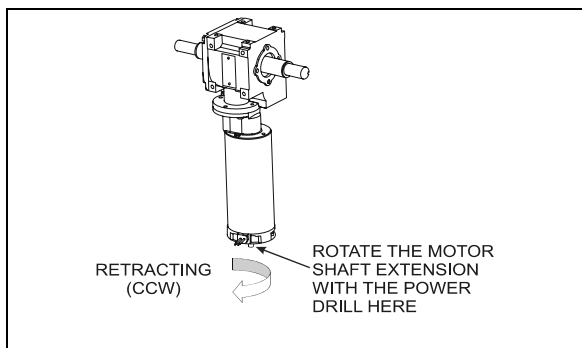

FIGURE 92: SLIDE-OUT MOTOR ROTATION
- Rotate the slide-out motor shaft extension with the power drill until the slide-out comes to its closed position (FIGURE 92).